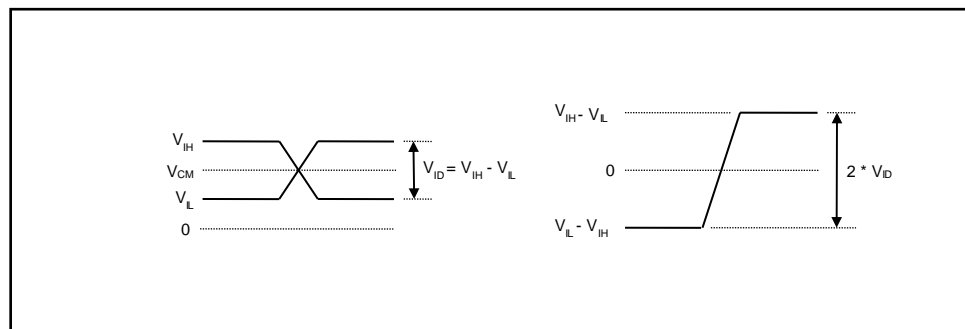

Figure 39. Differential Input Voltage Levels
**Input differential voltage is calculated as $V_{ID} = V_{IH} - V_{IL}$ where V_{IH} and V_{IL} are input voltage high and low respectively. It should not be confused with $V_{ID} = 2 * (V_{IH} - V_{IL})$ used in some datasheets. Please refer to Figure 39.